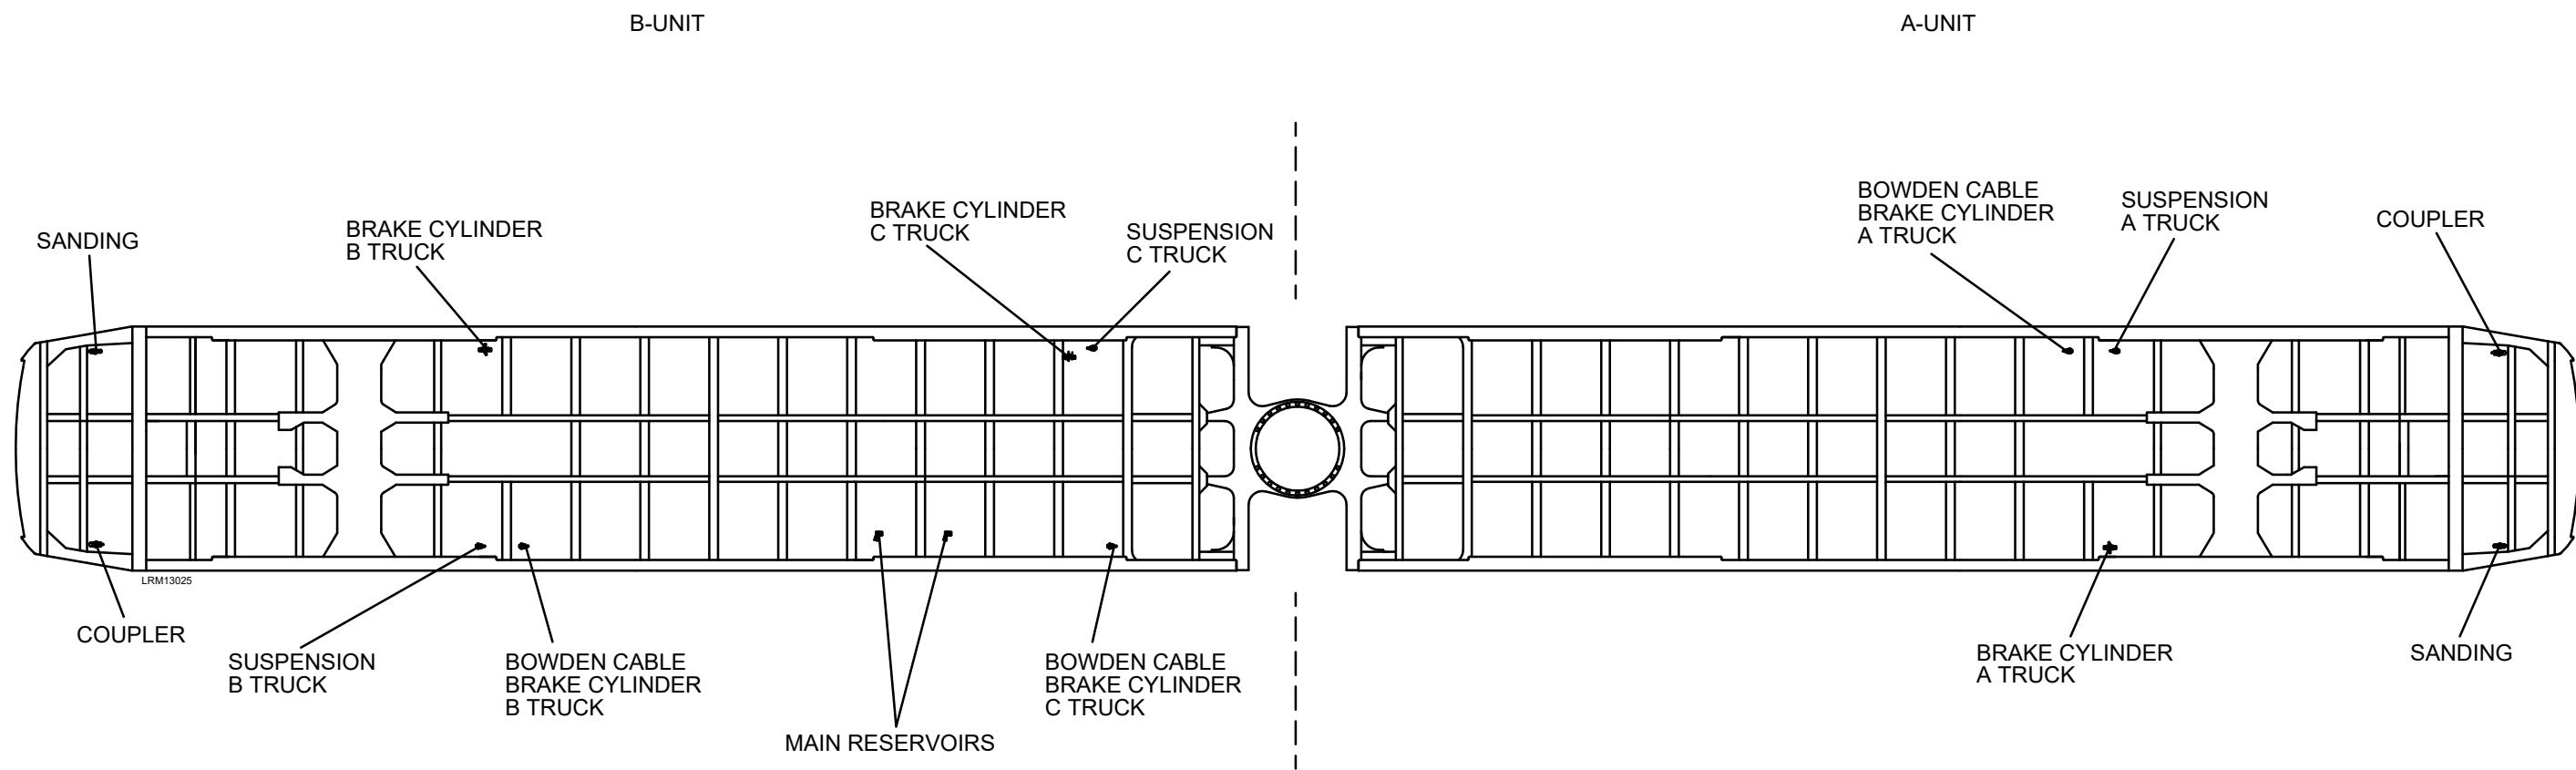

Figure 5-7: Underfloor Cutout Cock Plan
1. Disconnect the air supply to the sanding equipment by looking at the indicator on the handle for the sanding cutout cock and repositioning the valve handle so that the indicator is perpendicular to the piping and the valve is closed. See Figure 5-7.
9. Attach the air hose (2) and torque to 12Nm.
10. Unlock the stopper on the underside of the motor truck disc brake unit (3).
11. Insert two brake pads (10) noting that the key way in the brake pad (10) is installed correctly into the motor truck disc brake unit (3).
12. Lock the stopper of the motor truck disc brake unit (3).
13. Lay manual release cables along the end beam of the motor truck frame (9).
14. Align the manual release handle (18) with the holes in the truck frame bracket.
15. Insert two M8 x 35 bolts (17), M8 lock washers (16) and M8 lock nuts (15) and torque to 14Nm.
16. Repeat steps 15 through 17 for the remaining manual release handle (18).
17. Install two pipe clamps (14) using an M6 x 20 bolt (13), M6 lock washer (12) and M6 lock nut (11) for each manual release cable and torque to 7Nm.
18. Repeat steps 1 through 20 for the remaining motor truck disc brake unit (3) on the opposite side of the motor truck frame (9).
19. Connect the air supply to the motor truck disc brake units (3) by looking at the indicator on the cutout valve handle for the brake cylinder cutout cock and repositioning the valve handle so that the indicator is parallel to the piping and the valve is open. See Figure 5-7.
3. Insert two knock out pins at the M20 x 100 bolt (3) locations to align the center truck disc brake unit (2).
4. Insert two M20 Nord-Lock washers (7) and M20 x 230 bolts (6) and temporarily tighten.
6. Insert two extension sleeves (5), M20 Nord-Lock washers (4) and M20 x 100 bolts (3) and temporarily tighten.
7. After checking for alignment, torque two M20 x 100 bolts (3) and M20 x 230 bolts (6) to 450Nm.
8. Attach the air hose (1) and torque to 40Nm.
9. Unlock the stopper on the underside of the center truck disc brake unit (2).
10. Insert two brake pads (9) noting that the key way in the brake pad (9) is installed correctly into the center truck disc brake unit (2).
11. Lock the stopper of the center truck disc brake unit (2).
12. Repeat steps 1 through 13 for the three remaining center truck disc brake units (2).
13. Connect the air supply to the center truck disc brake units (2) by looking at the indicator on the cutout valve handle for the brake cylinder cutout cock and repositioning the valve handle so that the indicator is parallel to the piping and the valve is open. See Figure 5-7.